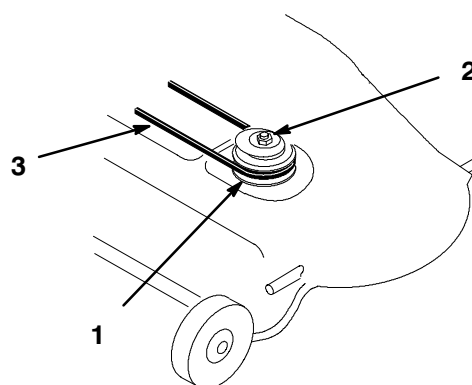

Figure 7
3. Slide the new double pulley onto the spindle shaft with the word "TOP", stamped into smallest pulley, facing up. Secure it with the previously removed 5/8" lock washer and nut (Fig. 7).
5. Install the existing mower belt by rotating it onto the bottom pulley (Fig. 7).